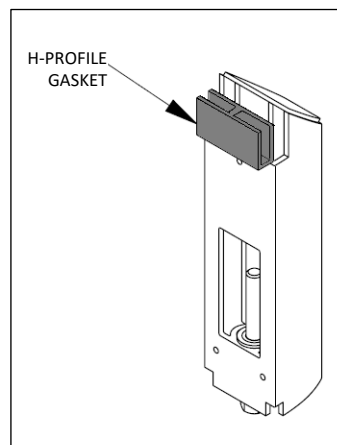

Fig. E6 – Rear glass spacer gasket
4. Install spacer gaskets in lower posts, see Figs. E6 and E7 for orientation. Bosses on spacer gasket for front glass should fit into post extrusion.